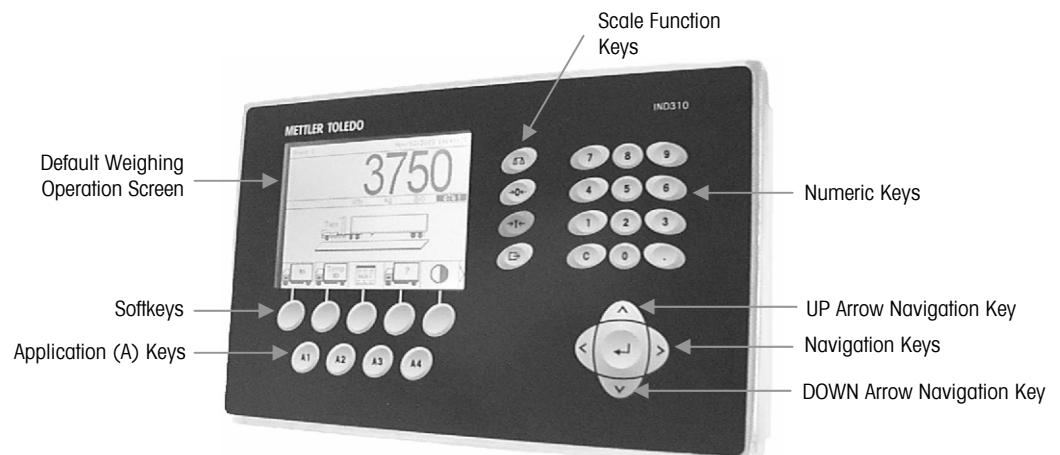
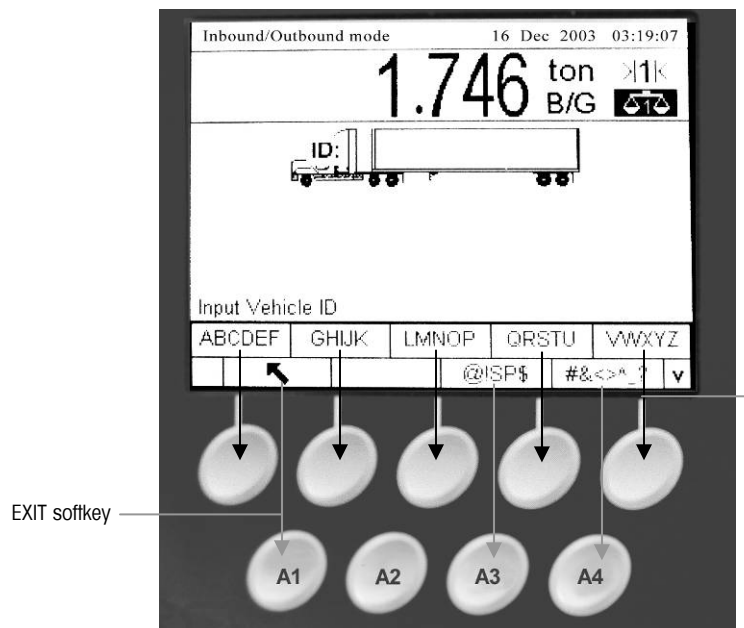

Figure 2-4: Key Locations and Default Weighing Operation Screen
Figure 2-5: Alpha Keys
The locations of the above listed keys and the default weighing operation screen are shown in Figure 2-4.
Five softkeys are located along the bottom of the display screen (see Figure 2-4). Some screens might have up to three pages of softkeys for a total of 15 possible functions. A DOWN ARROW icon  displayed on the lower-right corner of the screen (to the far right of the softkey icons) indicates that more softkey selections are available. Press the DOWN arrow navigation key to display additional softkey screens. Press the UP arrow navigation key to display the previous softkey screen. See Appendix F for information regarding Softkey Setup.
Application keys (A keys) are located below the softkeys (see Figure 2-4) and are labeled
Scale function keys (see Figure 2-4) are:
Navigation keys (see Figure 2-4) enable navigation within the setup menu tree, setup screens, and application screens. Navigation keys include:
Use the terminal's 12-key numeric keypad (see Figure 2-4) to enter data and commands.
On some setup pages, soffkeys and application keys function as alpha keys (see Figure 2-5) that are used to enter alphabetic characters for setup parameters such as passwords.
To use alpha keys, position the cursor in the data entry location (see Navigation Keys), press the soffkey or application key associated with the desired set of alpha characters as shown in Figure 2-5. The soffkeys change to display each alpha character included in the selected set of alpha characters. Use the UP and DOWN arrow navigation keys (see Figure 2-4) to switch between upper-case and lower-case characters. Press the key associated with the specific alpha character
- 2. Once the vehicle is on the scale, press the VEHICLE ID softkey. A vehicle ID prompt displays with a cursor in the Vehicle ID entry field. The softkeys and application keys become alpha keys (see Figure 2-5).
- A. Enter the ID information at the temporary ID prompt that displays with a cursor in the ID field. The softkeys and application keys become alpha keys (see Figure 2-5).